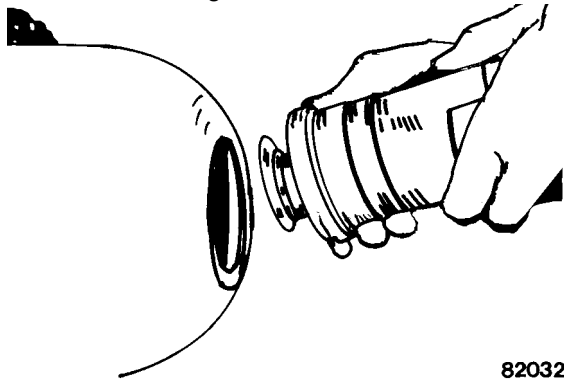

FIGURE 3-18. HYDRAULIC PORT REMOVAL
8. Remove the hydraulic port from the shell as shown in Figure 3-18.